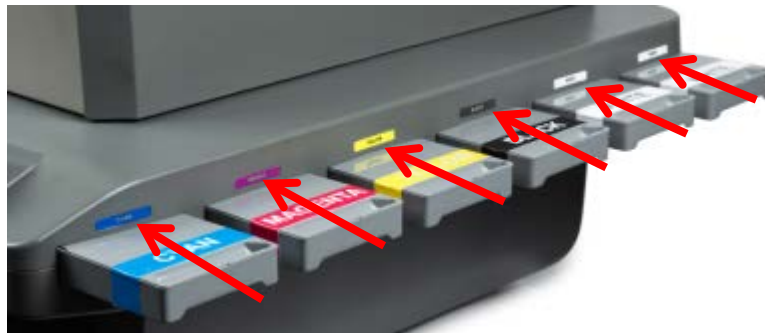

Figure 9.4-7: Ink Bay Cartridge Orientation
- Carefully pull the empty cartridge straight out of the Ink Bay. (Figure 9.4-7) The LCD on the control panel will read **"NOT FOUND"** for the missing cartridge.